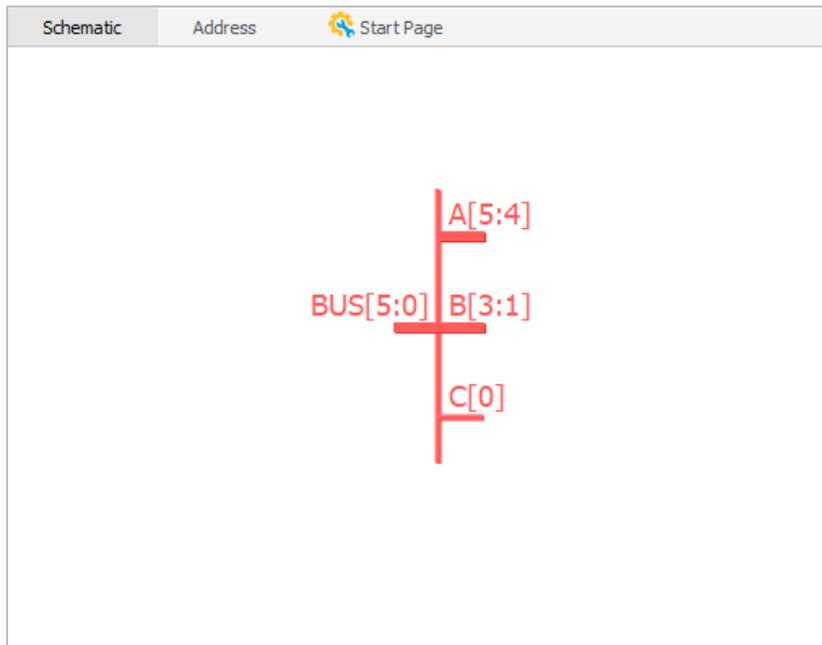

Figure 2.32. Schematic View Shows Split Module
3. Click **OK**. The schematic block for the split module in red appears in the Schematic view (Figure 2.32).